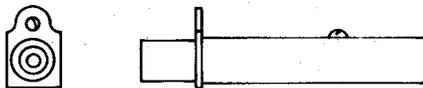

Fig. 24—542A or B Jack
2.20 **542A and B:** These are coaxial-type jacks (Fig. 24).